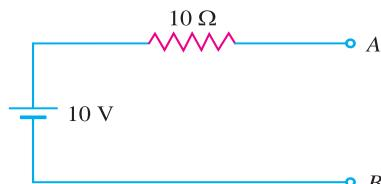

Fig. 1.16
**Example 1.3.** Convert the constant voltage source shown in Fig. 1.16 into constant current source.
(i) Place a short across AB in Fig. 1.16 and find the short-circuit current  $I$ .